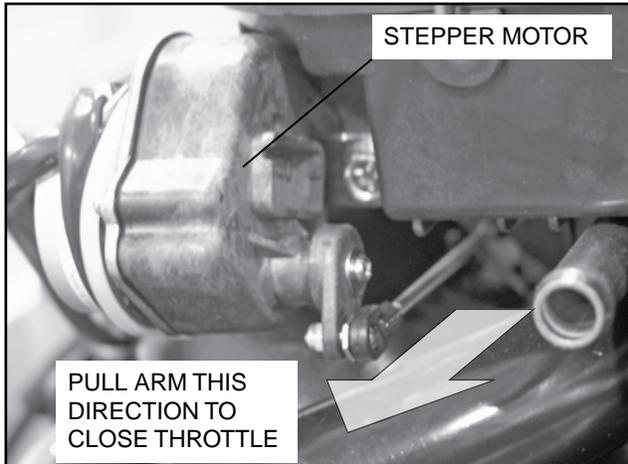
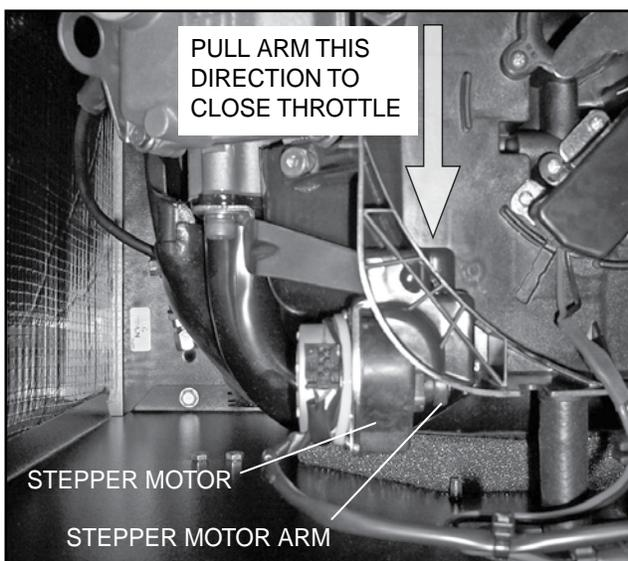

Figure 11. Throttle Positions 9/10 kW Units
Figure 13. Throttle Positions 12-20 kW Units
3. Physically move the throttle to the closed position by pulling the stepper motor arm towards the idle stop. See Figures 11 and 12 (for 9/10 kW units) or Figure 13 (for 12-20 kW Units).